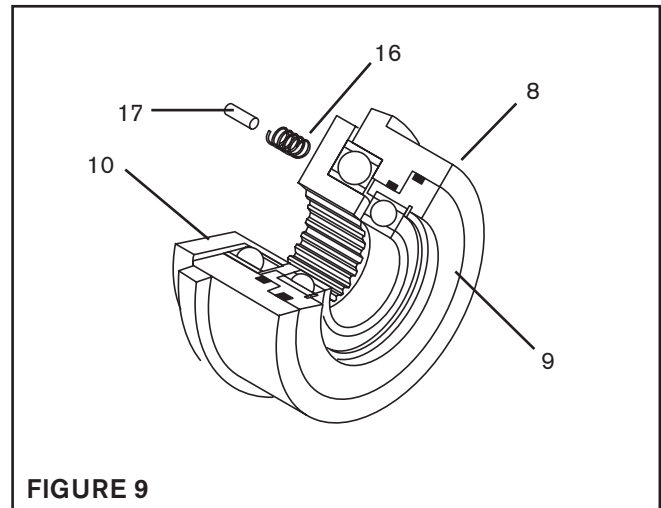

FIGURE 9
Refer to Figures 9 - 11.
4. Remove the Retaining Ring (Item 5) from the Piston (Item 8) (See Figures 9 and 10).